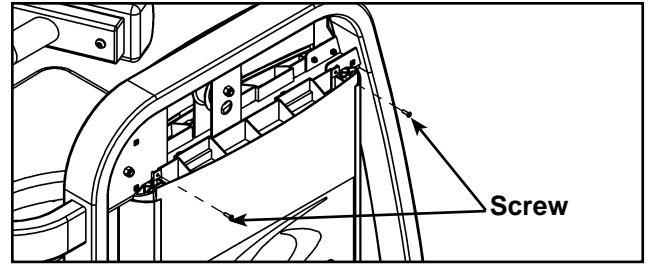

Figure 14
- B. Install the top two screws securing the back shroud. See Figure 14.